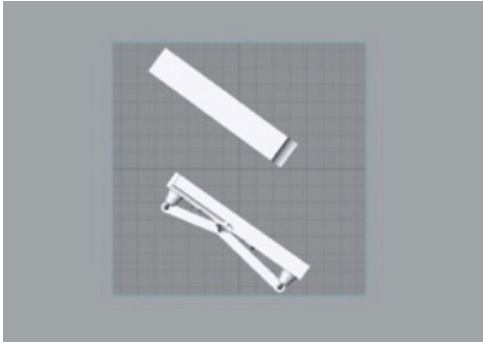

figure 1
- We recommend positioning the models on the platform so that the working areas do not overlap, to avoid excessive wear at the shared points (see figures 1 & 2). This placement, together with our DWS-patented TTT (Tank Translation Technology) System, increases the tank's lifespan by avoiding excessive wear on a single area.